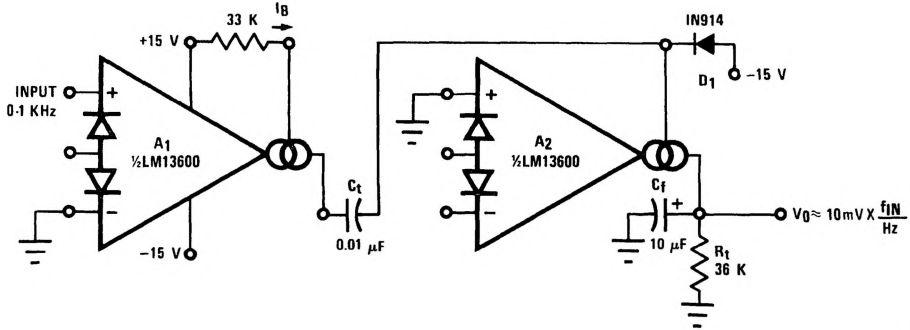

FIGURE 23. Tachometer
*Figure 23* shows a Tachometer or Frequency-to-Voltage converter. Whenever A1 is toggled by a positive-going input, an amount of charge equal to  $(V_H - V_L) C_T$  is sourced into  $C_T$  and  $R_T$ . This once-per-cycle charge is then balanced by the current of  $V_O/R_T$ . The maximum  $f_{IN}$  is limited by the amount of time required to charge  $C_T$  from  $V_L$  to  $V_H$  with a current of  $I_B$ , where  $V_L$  and  $V_H$  represent the maximum low and maxi-